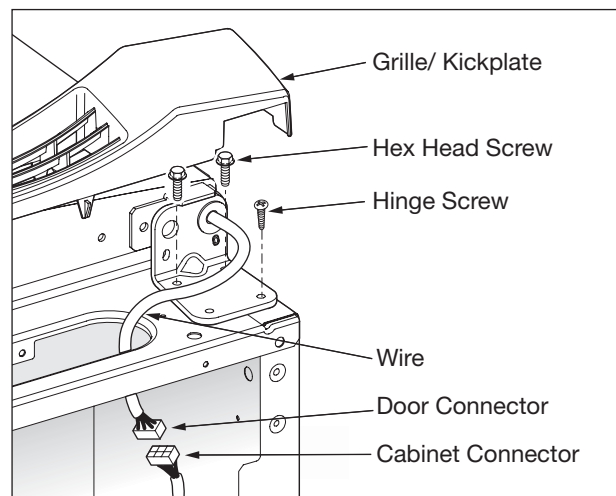

Figure 5-4. Lower Hinge Removal
4. Remove the grille/kickplate by grabbing the grille/kickplate at the top with both hands, then pull away from the unit until grille/kickplate disengages from the unit. (See Figure 5-4)